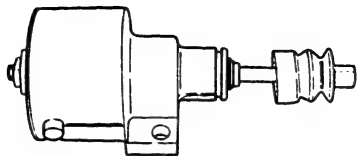

Fig. 74 Rubber boot removal
1. Remove the aneroid compensator rubber boot (170/12) from the housing. (Fig. 74)